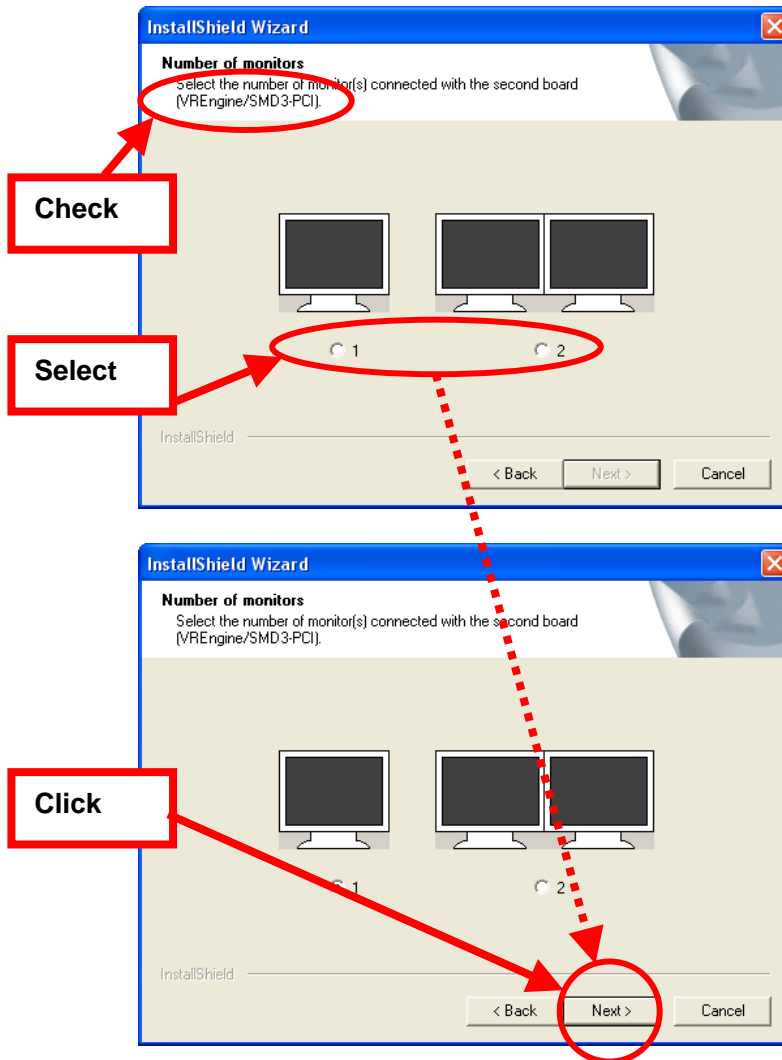

Fig. 11 Select number of monitors dialog
- The Number of monitors dialog in Fig. 11 will appear. Confirm the board type has been correctly detected, select the number of monitors connected to the board, and click the Next button.